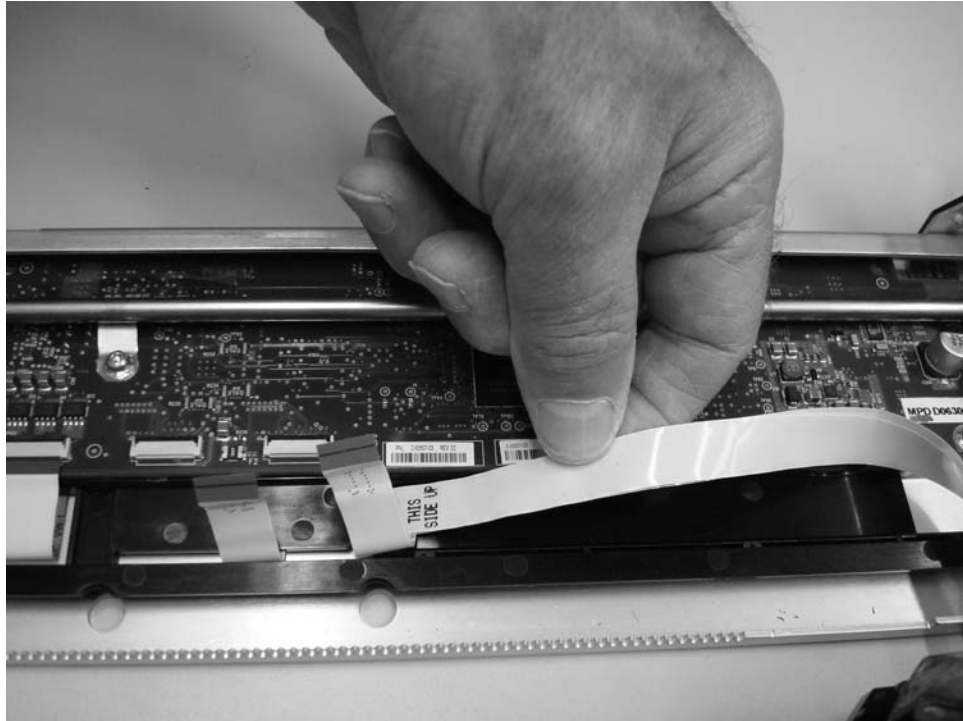

Figure 8-83. Slide cable forward
- d. Slide the flex cables to the rear as in Figure 8-83.